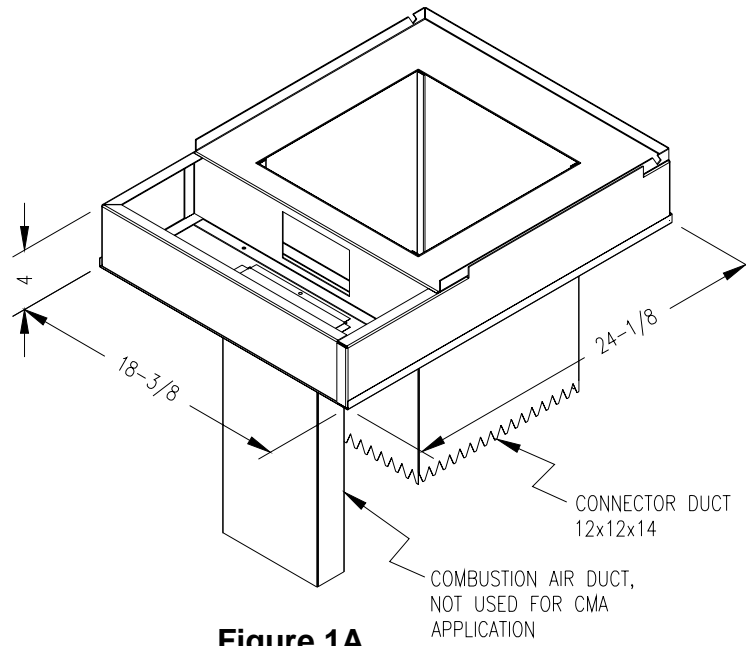
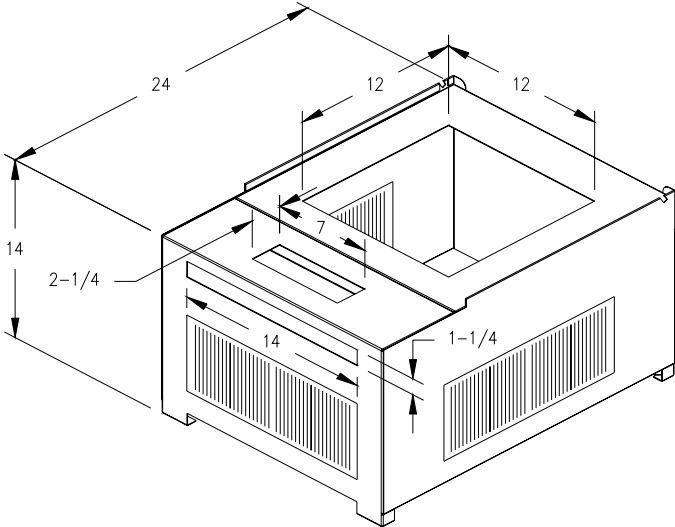

Figure 1A.
Figure 1C.
3. This furnace may be installed on a combustible floor when utilizing either the No. 70 counterflow floor base or CE111S / CE211T coil cabinet for below the floor duct systems, or the cottage base for floor level air distribution. See Figure 1A for description of Combustible Floor Base and Figure 1C for Cottage Base.
The 01COT BASE cottage base (Figure 1C) is required for a freestanding cottage base installation. The cottage base allows the two sides and rear to have an 8" x 12" register installed. **IMPORTANT: All joints and seams of supply ducts must be sealed with a sealing method suitable to the application conditions and temperatures (I.E. High temperature silicone and/or aluminum tape).** Refer to assembly and installation instructions included with cottage base for additional information.